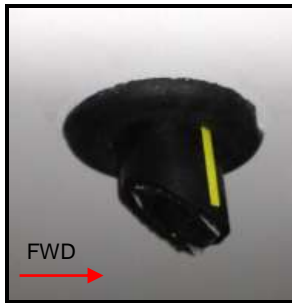

Figure 13: Drain Hole of Cargo Pod Fuel Drain Compartment
- m. Fit drain hose (GA8-255024-073) to grommet with Loctite 406 (or equivalent) adhesive. Trim hose flush with top of grommet and protruding slightly from the bottom of the cargo pod, facing aft trimmed at a 45° angle, Figure 13.